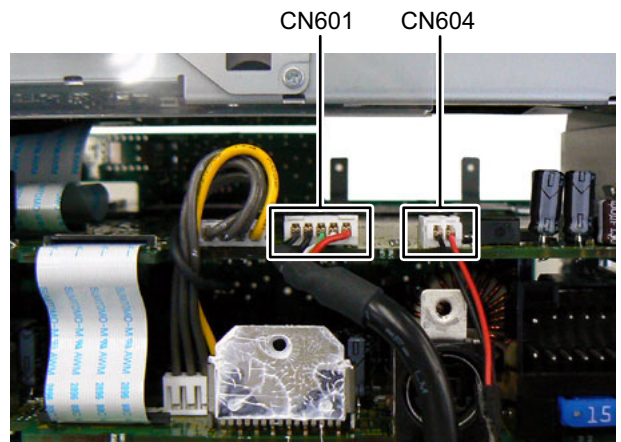

Fig.9
- (3) Disconnect the connector wire from Car cable connected to connector CN601 of the Sub board. (See Fig.9)
- (4) Disconnect the connector wire from Fan connected to connector CN604 of the Sub board. (See Fig.9)